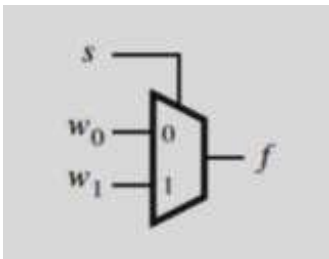

Figure 6.1a Graphical symbol
- Fig. 6.1a shows the graphical symbol for a 2-to-1 multiplexer.